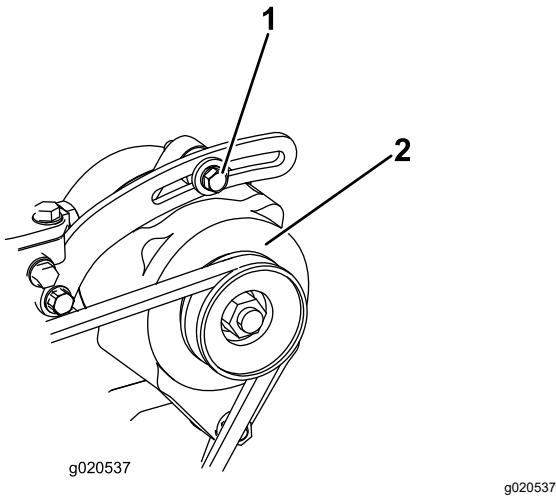

Figure 144
1. If the deflection is not 10 mm (3/8 inch), loosen the alternator mounting bolts (Figure 144).